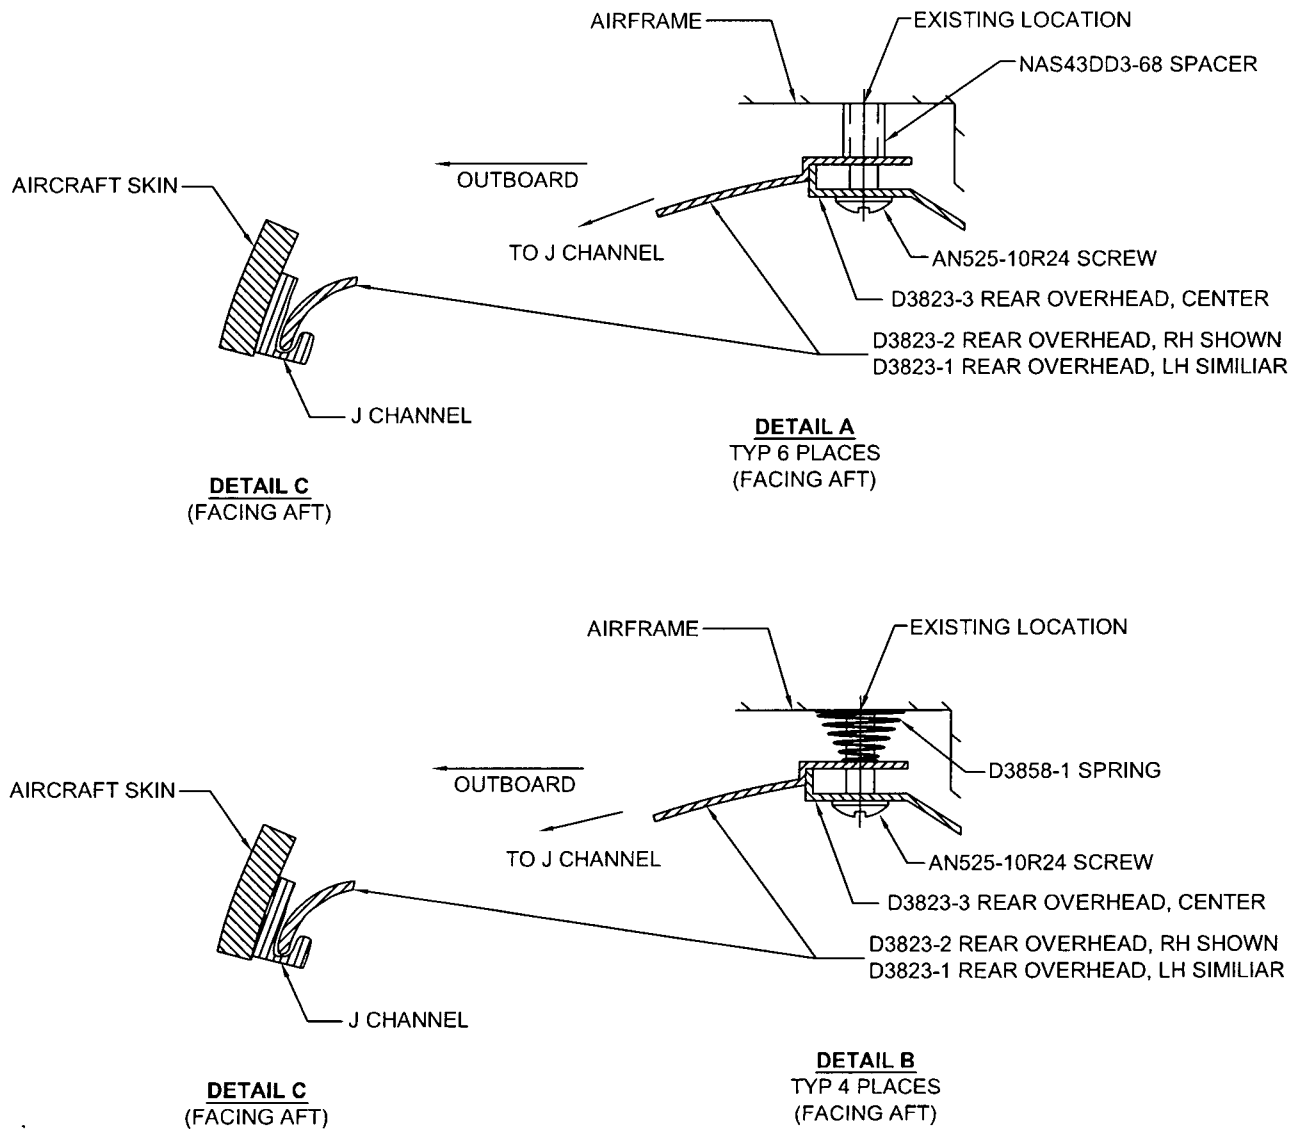

FIGURE 5 – D3823-1/-2/-3 PANEL INSTALLATION DETAIL
- d) Fasten D3823-1/-2 panels to the J-Channels above the doors as shown in Figure 5.